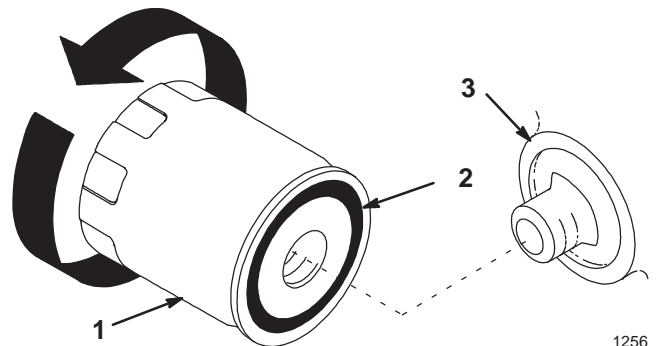

Figure 20
2. Remove the old filter and wipe the filter adapter (Fig. 20) gasket surface.
3. Apply a thin coat of new oil to the rubber gasket on the replacement filter (Fig. 20).
4. Install the replacement oil filter to the filter adapter. Turn the oil filter clockwise until the rubber gasket contacts the filter adapter, then tighten the filter an additional 1/2 to 3/4 turn (Fig. 20).